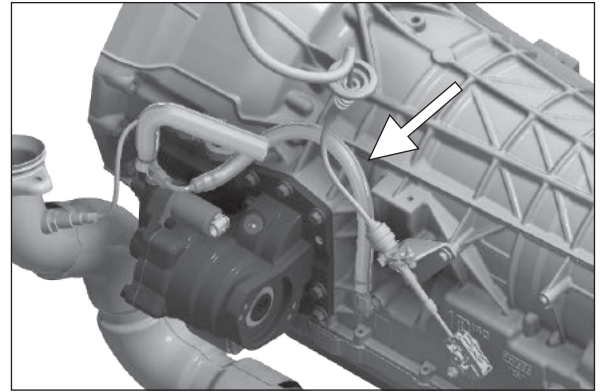

Figure 39
8. Connect hose to the fitting on the transmission. Chelsea recommends all hoses be routed above the PTO as shown in **(Fig. 39)**. Some large pumps may require lube hose to be routed below the PTO due to clearance to the transmission fitting. Hold hose fitting in desired position and tighten lock nut with a wrench until solid feeling is encountered. From that point, apply one-sixth turn. Next, connect the other end of the hose to fitting on the PTO valve cap. Tighten until solid feeling is encountered. From that point, apply one-sixth turn.